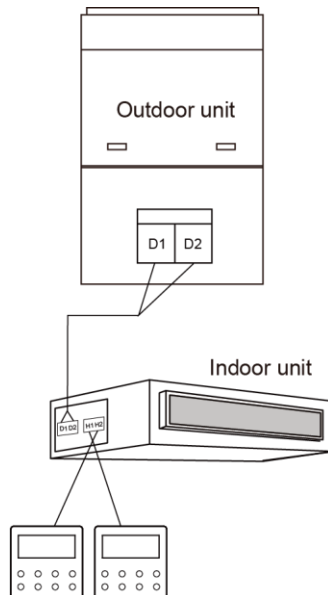

Fig. 3.7 Two wired controllers control one indoor unit
- (1) When one wired controller controls multiple indoor units simultaneously, the wired controller can connect to any one indoor unit, but the connected indoor unit must be the same series indoor unit. The total quantity of indoor unit controlled by wired controller can't exceed 16 sets, and the connected indoor unit must be within the same indoor unit's network. Wire controller must set quantity of group control indoor units. Please refer to 3.2.3 Parameters Setting.
- (2) When two wired controllers control one indoor unit, the addresses of those two wired controllers should be different. Please refer to 3.2.3 parameter setting.
- (3) When two wired controllers control multiple indoor units, wired controller can be connected to any one indoor unit, while the connected indoor unit should be the same series indoor unit. The addresses of those two wired controllers should be different. Please refer to 3.2.3 parameter setting. The total quantity of indoor unit controlled by wired controller can't be more than 16 sets and all connected indoor units must be within the same indoor unit network. Wire controller must set quantity of group control indoor units. Please refer to 3.2.3 Parameters Setting.
- (4) When one (or two) wired controller(s) control(s) multiple indoor units at the same time, the controlled indoor unit's setting should be the same.
- (5) Wiring of wired controller and indoor unit network must be according to one of the four wiring method as shown in fig 3.6-3.9. As for the connection method shown in fig 3.7 and 3.9, there should be only one master wired controller (address is 01) and one slave wired controller (address 02). The quantity of wired controller can't exceed two.